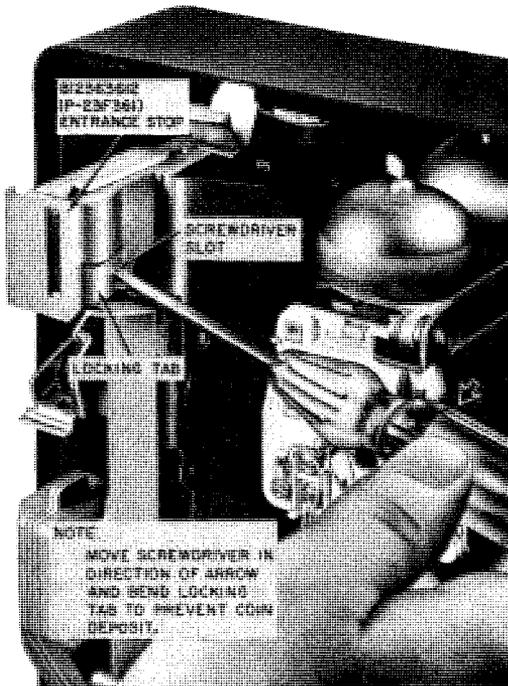

Fig. 60—Operation of Entrance Stop
Note 2: Do not install this kit on sets where the entrance stop has been positioned off normal as shown in Fig. 60.
5.44 The entrance stop (Fig. 60) is installed on the chute to minimize coin losses due to chute stuffing. When the coin release lever or knob is operated or a stuffing condition exists the entrance stop moves sideways and closes the coin slot.
5.46 A prefabricated locking tab arrangement can be bent with a screwdriver (Fig. 60) to hold the upper plate assembly off normal. This will prevent customer coin deposits in newly installed cointelephone sets awaiting initial service connections, or those that are out of service which require further maintenance or repair.
Warning: Do not put a set out of service as shown in Fig. 60 if a magnetic coin stop exists, without first removing the coin stop. The magnetic coin stop can be stored in set until service is restored at which time it can be reinstalled. Install an OUT-OF-SERVICE sticker.